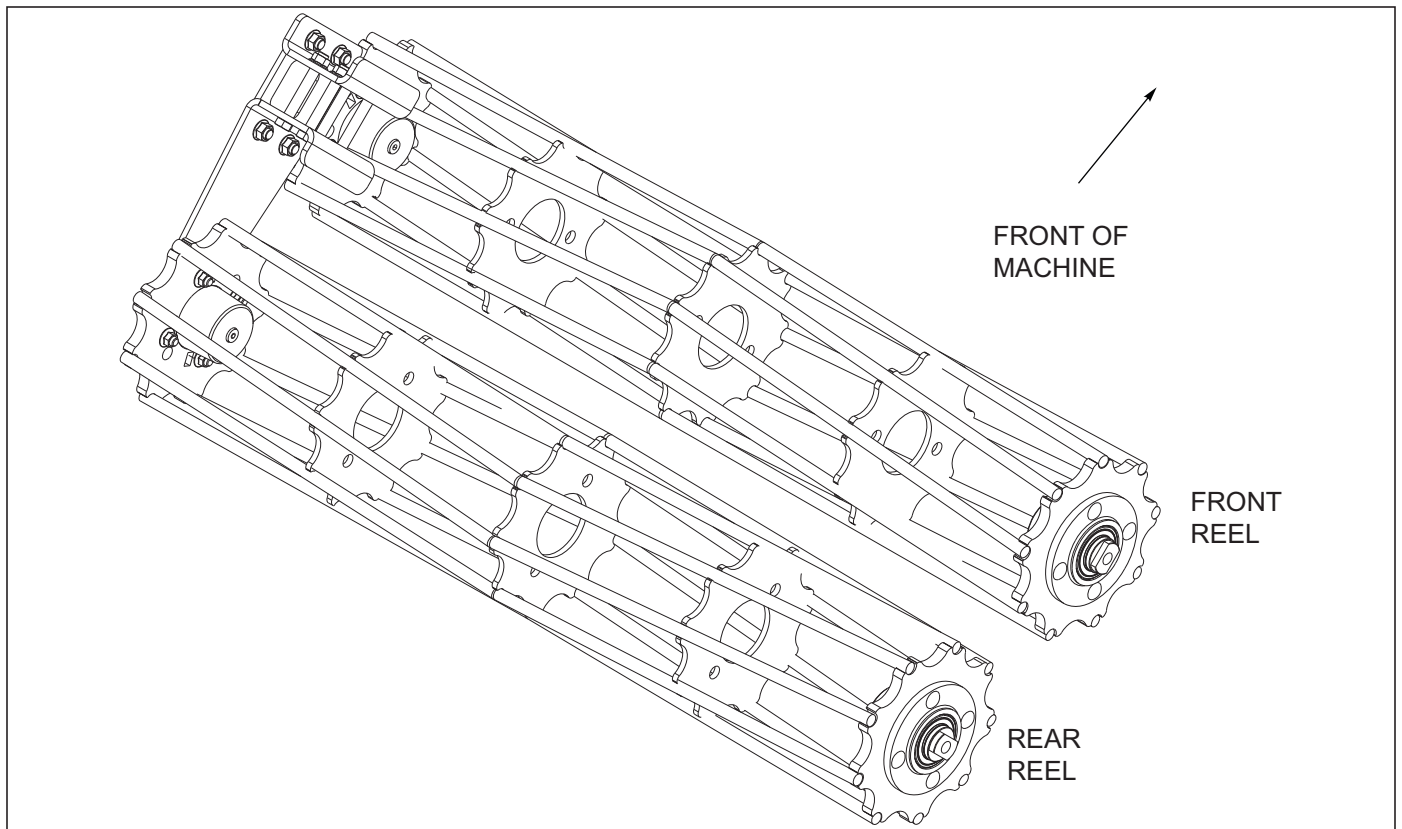
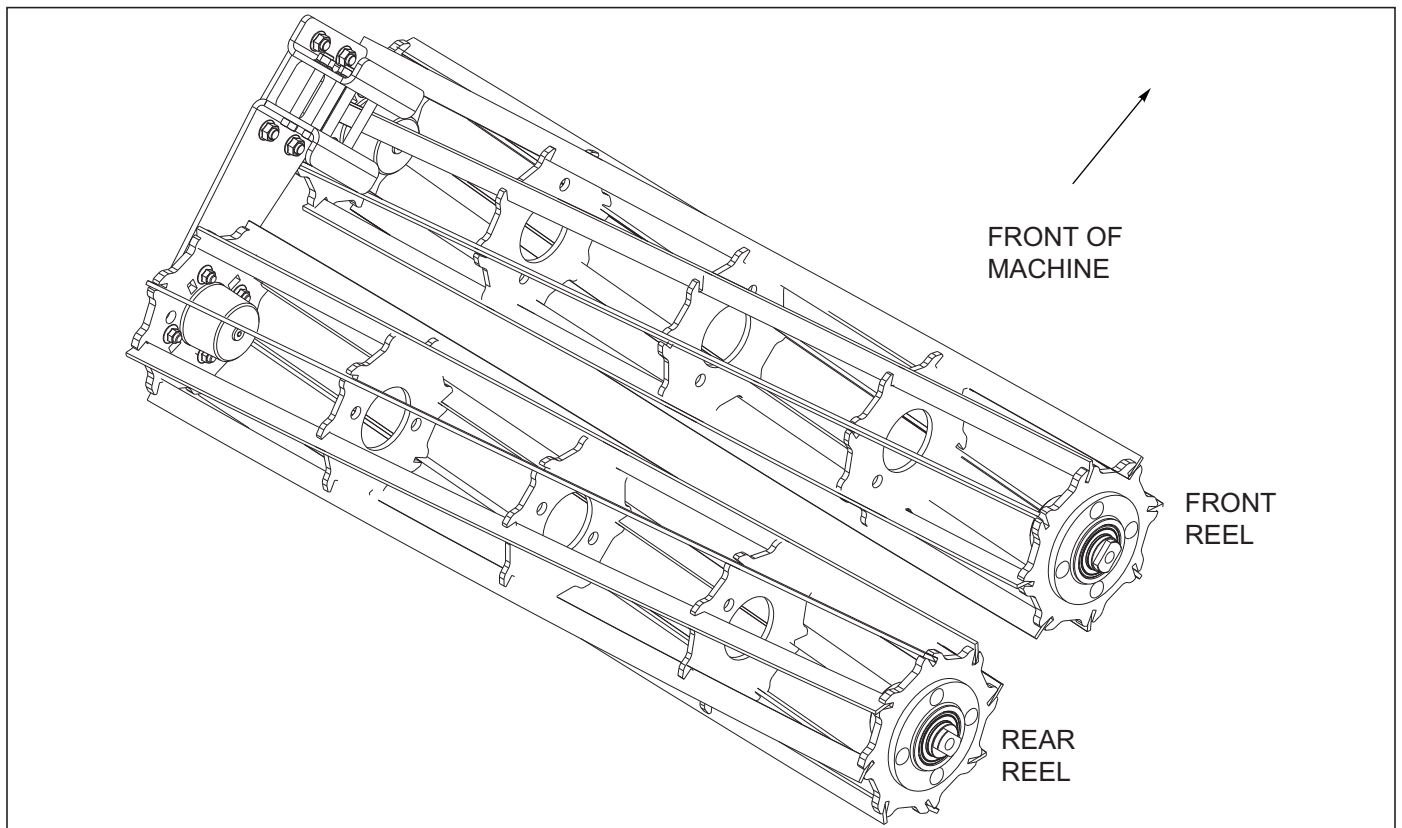

Figure 4-13: 3RS DBL Conditioner Reel Installation
Figure 4-14: 3RS DBL Flat Reel Installation
- The reels operate independently of the 3 row spike with two spring loaded arms per reel to maintain consistent down pressure. The blades on reels are angled for more aggressive action. Install the reels as shown **See Figure 4-13** or **See Figure 4-14**. Front reels are installed angled forward as shown, rear reels are reversed for more soil firming.